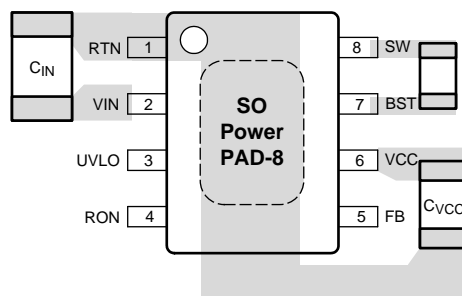

Figure 18. Placement of Bypass Capacitors
1. C_{IN} : The loop consisting of input capacitor (C_{IN}), V_{IN} pin, and RTN pin carries switching currents. Therefore, the input capacitor should be placed close to the IC, directly across V_{IN} and RTN pins and the connections to these two pins should be direct to minimize the loop area. In general it is not possible to accommodate all of input capacitance near the IC. A good practice is to use a 0.1- μ F or 0.47- μ F capacitor directly across the V_{IN} and RTN pins close to the IC, and the remaining bulk capacitor as close as possible (see Figure 18).
2. C_{VCC} and C_{BST} : The V_{CC} and bootstrap (BST) bypass capacitors supply switching currents to the high and low-side gate drivers. These two capacitors should also be placed as close to the IC as possible, and the connecting trace length and loop area should be minimized (see Figure 18).